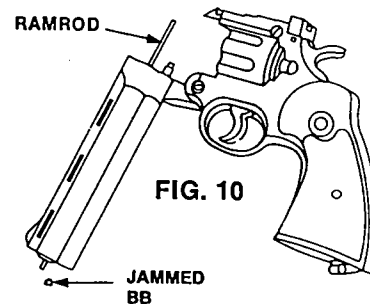

FIG. 10
- C. If the jam is in the Barrel, remove the BB Clip, and using a straightened wire clothes hanger, push the jammed BB out the Muzzle end of the Barrel. Fig. 10.